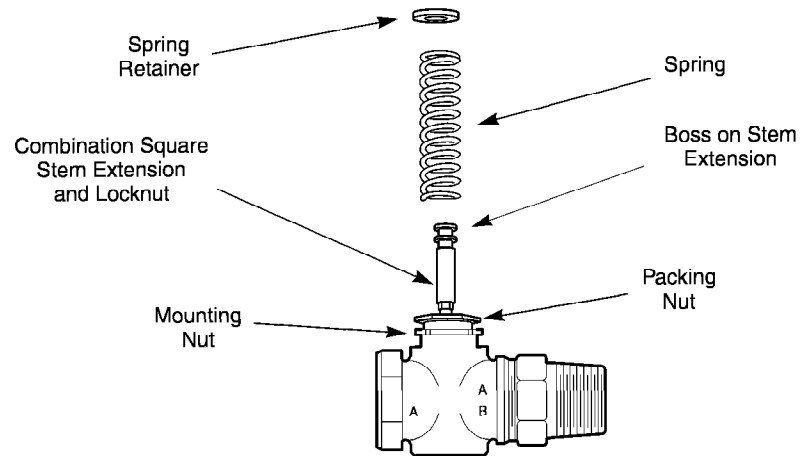

Figure-5 Assembly of AV-400 Linkage Kit onto VB-9XXX Series Valve.
10. Install the actuator onto the valve by screwing the actuator base onto the mounting nut (Figure-5). The actuator may be rotated as desired to facilitate making the pneumatic connection.
1. Thread the square stem extension several turns onto the valve stem (Figure-5).
8. Hold the spring to prevent it from turning. "Walk" the tool up the spring coil by turning it counterclockwise until the boss on the stem extension (Figure-5) projects above the top coil of the spring. Pushing down on the tool reduces torque required to turn the stem and plug into the seat.
9. Install the spring retainer (Figure-5) onto the stem extension and turn the retainer 45° to lock it in place.